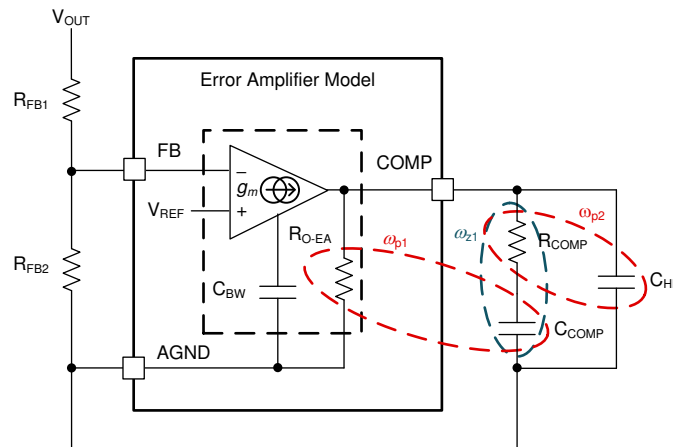

图 9-3. Error Amplifier and Compensation Network
图 9-3 shows a type-II compensator using a transconductance error amplifier (EA). The dominant pole of the EA open-loop gain is set by the EA output resistance,  $R_{\text{O-EA}}$ , and effective bandwidth-limiting capacitance,  $C_{\text{BW}}$ , as shown by 方程式 25.